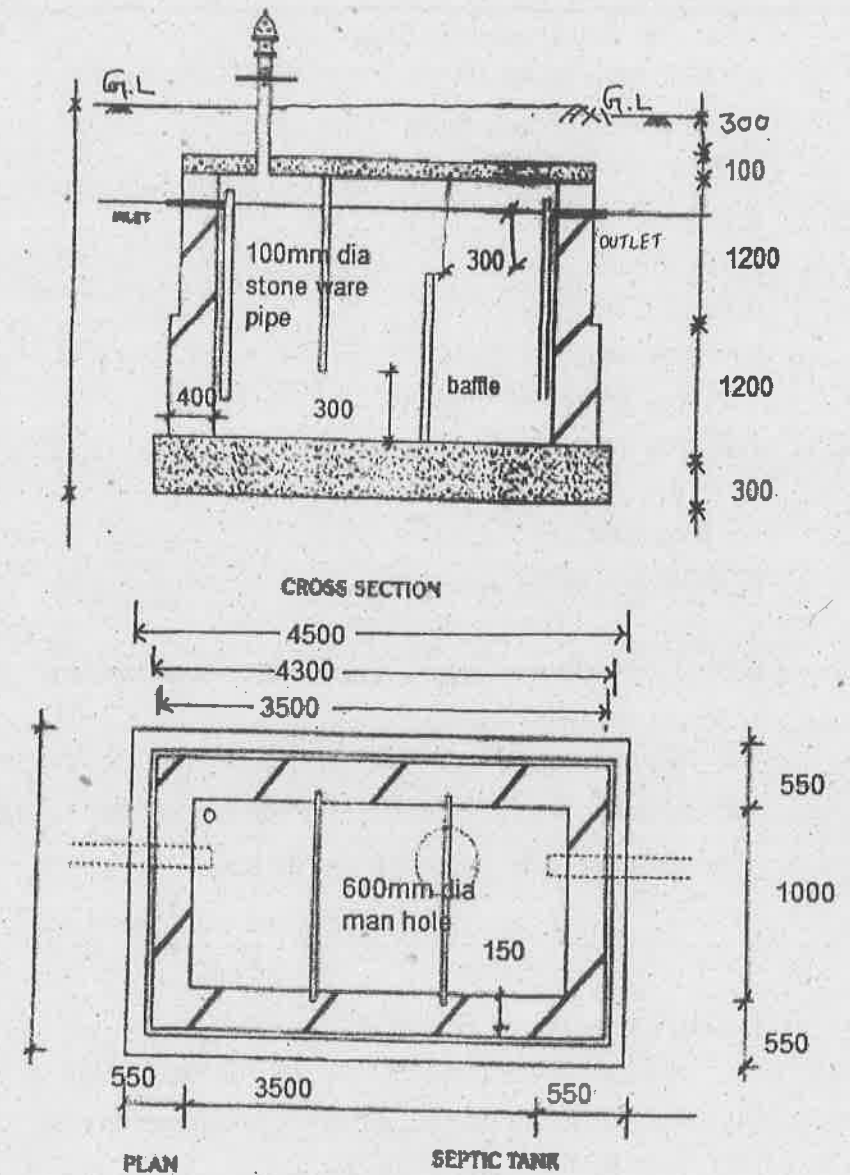

Figure Q. 12
12. (a) The Plan and cross section of the septic tank are given in Figure Q. 12. Estimate the quantities for the following items of works.
- Earth work in excavation upto GL (3)
- Brick masonry in CM 1:4 for side walls (7)
- C.C for (1:4:8) bed for foundation. (3)
- (b) The Plan and cross section of the septic tank are given in Figure Q. 12. Estimate the quantities for the following items of works.
- Plastering with C.M (1:4) with 20 mm thick (6)
- R.C.C. (1:2:4) using 20 mm HBG metal (3)
- Earth filling with excavated soil around the brick work. (4)